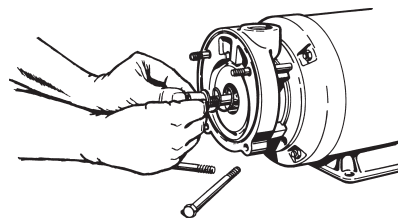

Figure 4-15
- h. Align the keyway slot in the hub assembly, and the key in the motor shaft. Refer to Figure 4-15,